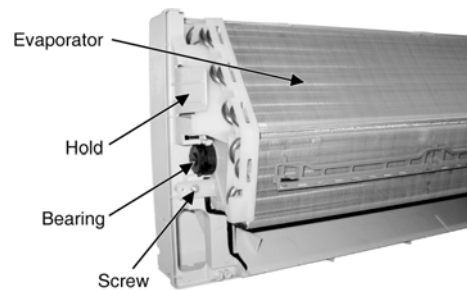

Fig. 11
- Remove the Bearing. (Fig. 11)
- Remove the screw at the left of the Evaporator. (Fig. 11)
- Press the Hold to left hand side then you can release the Evaporator. (Fig. 11)